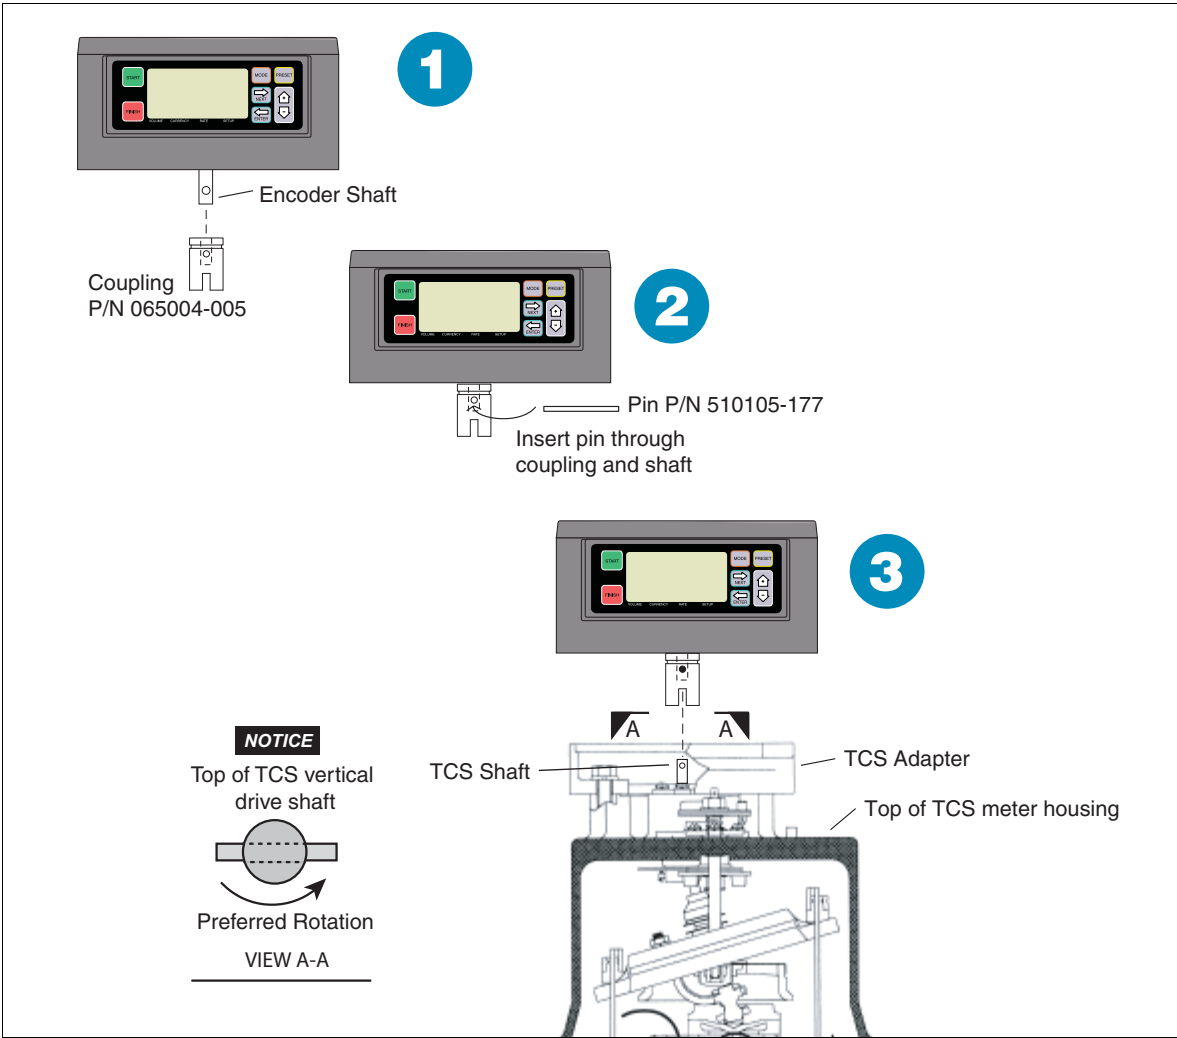

Figure 5. Display Head Mounted On TCS 682 Piston Meter
2. Run the flow meter and verify that the flow meter's vertical drive shaft (Figure 5) is rotating in a counter clockwise direction. If not, make the necessary mechanical adjustment(s) to ensure the vertical drive shaft rotates counter-clockwise.
4. Following the steps in Figure 5, assemble the coupling onto the encoder shaft and lower the Display Head onto the TCS meter adapter while aligning the slot in the bottom of the coupling with the pin in the shaft in the top of the adapter.